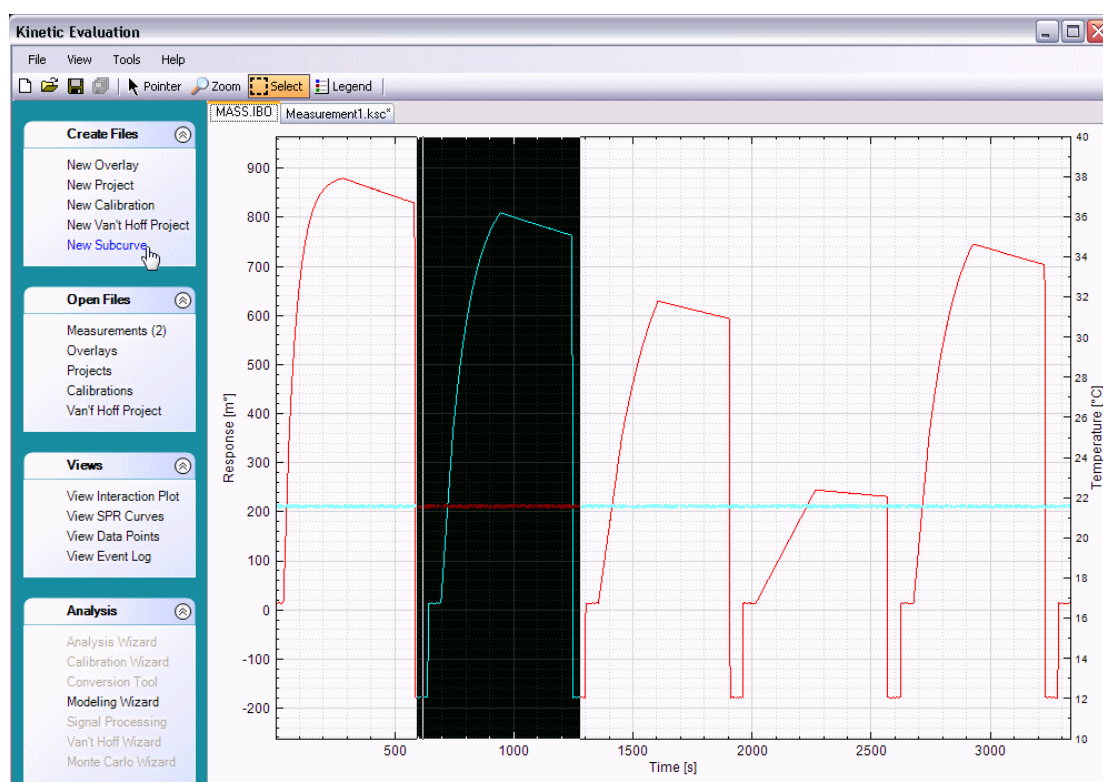

Figure 4.18 - The newly created Sub Curve
- e) A new file will be created which contains the selected data. Figure 4.18 shows the new KE Sub Curve file.